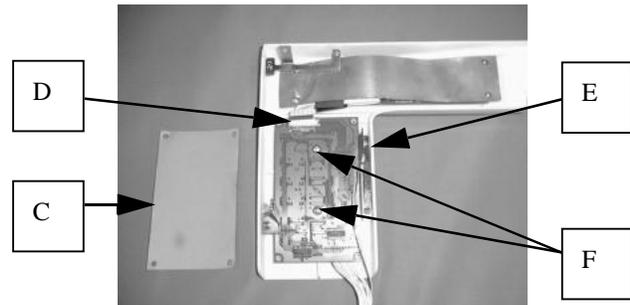

FIGURE 6-4
I. Remove the insulating paper(C) from the front panel by removing 4 bind taptight screws 3x8. Fig.6-4